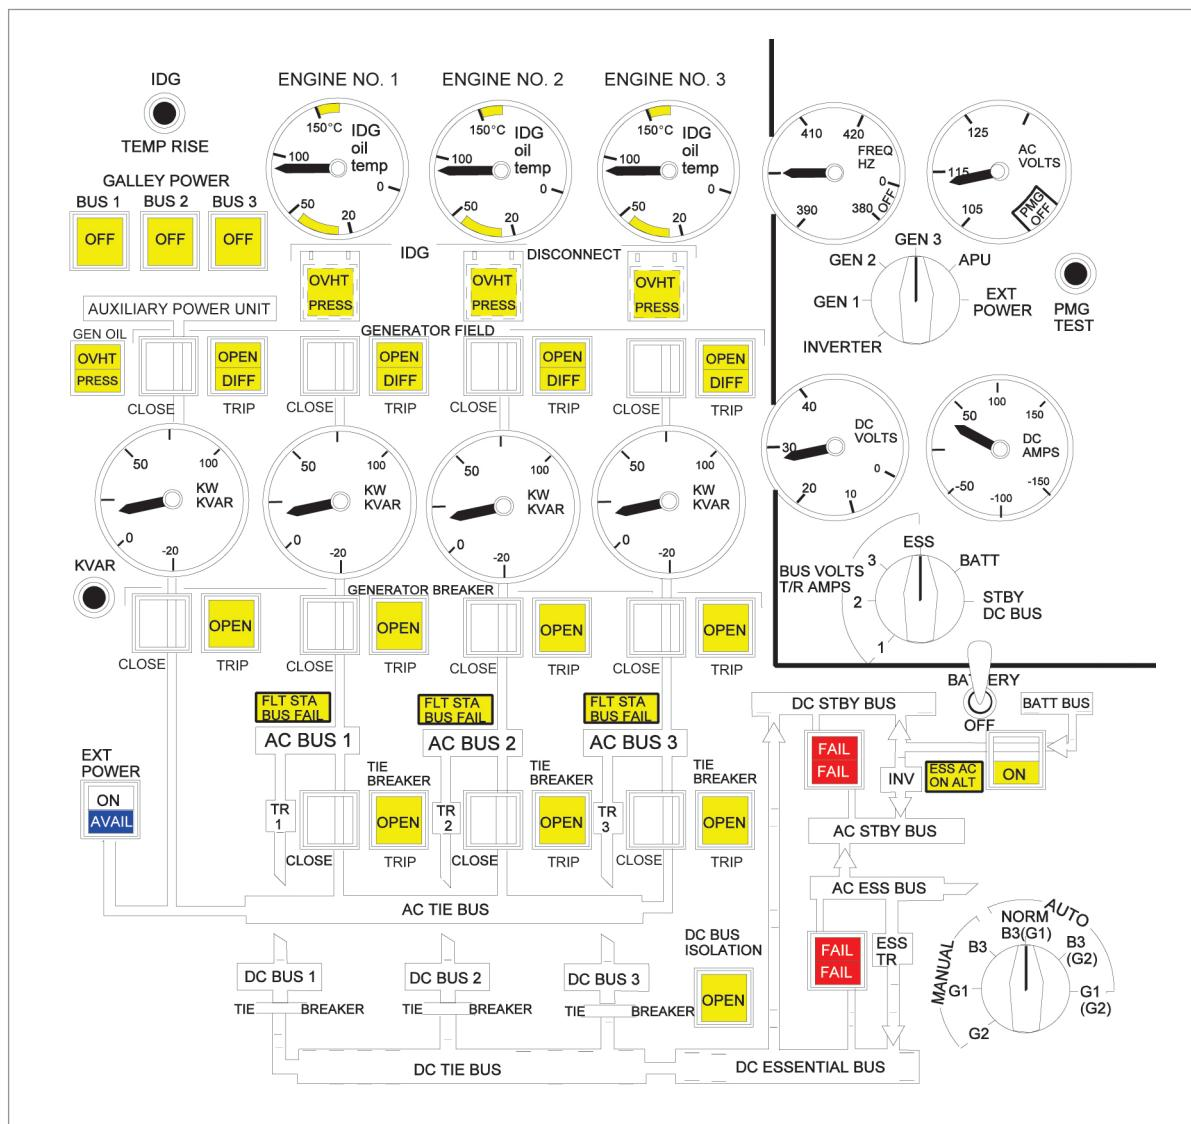

Figure 12.14 Control and indications for a three-engine parallel system
*Figure 12.14* shows typical controls and indications for a three-engine paralleled system. This type of panel uses "switch lights". These are a combination switch and indicator, either having a momentary or alternate action e.g. push once to activate (generator disconnect switch) or push once to switch "on", then push a second time to switch "off" (galley power on/off). The indicator shows switch position or system status.